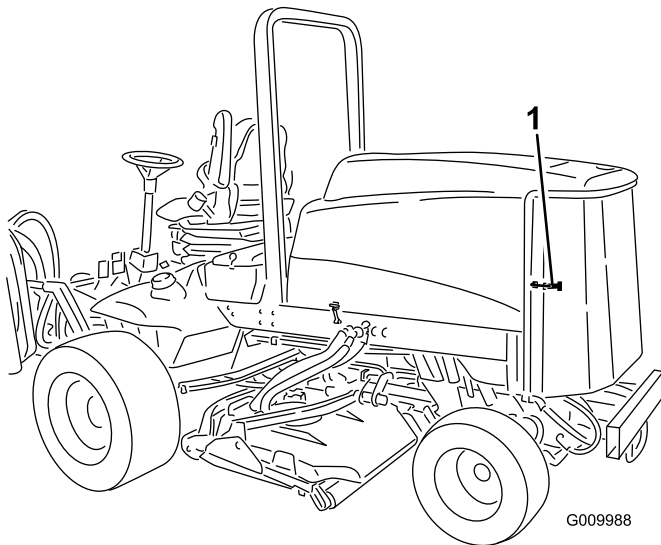

Figure 56
1. Unlatch and swing open the rear screen (Figure 56).